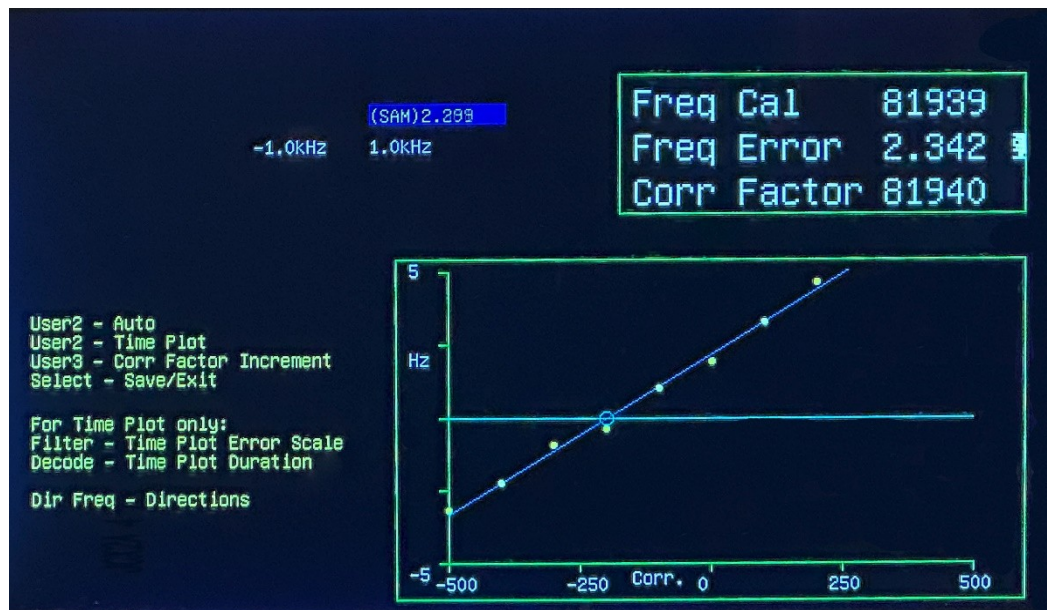

Figure 1 Auto Frequency Calibrate
- Auto-calculation to the best correction factor uses linear regression. The Si5351 frequency is a linear function of the correction factor. The zero error point is found by varying the applied correction value measuring the frequency error and then creating a linear regression trend equation to predict the zero error correction factor value. Figure 1 shows the linear regression plot for a crystal reference fir the Si5351.